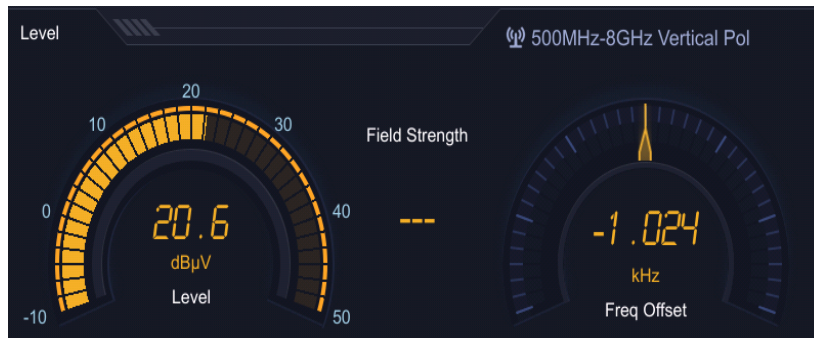

Fig. 4.7 Level Display Diagram
- c) Level display diagram: displays the measured value of the current level channel, frequency offset, field strength (connected antenna) and other information. As shown in Figure 4.7.